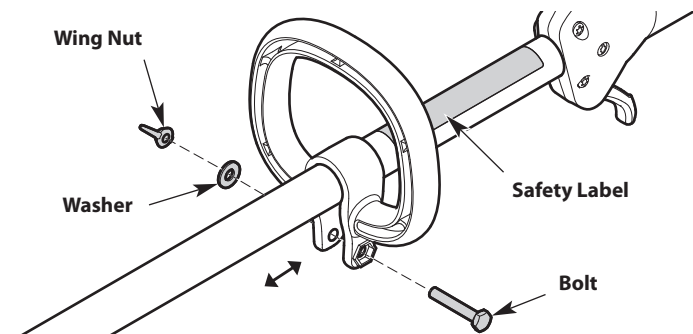

Fig. 9
2. Insert the bolt into the hex bolt hole and push it through (Fig. 9). Place the washer onto the bolt (Fig. 9). Screw the wing nut onto the bolt, but do not tighten the wing nut completely (Fig. 9).
3. Hold the unit in the operating position (Fig. 15). Move the handle up or down the upper shaft housing to a comfortable location (Fig. 9). Make sure the handle is positioned beyond the end of the safety label (Fig. 9).
1. Loosen the wing nut (Fig. 9).
2. Hold the unit in the operating position (Fig. 15). Move the handle up or down the upper shaft housing to a comfortable location (Fig. 9). Make sure the handle is positioned beyond the end of the safety label (Fig. 9).